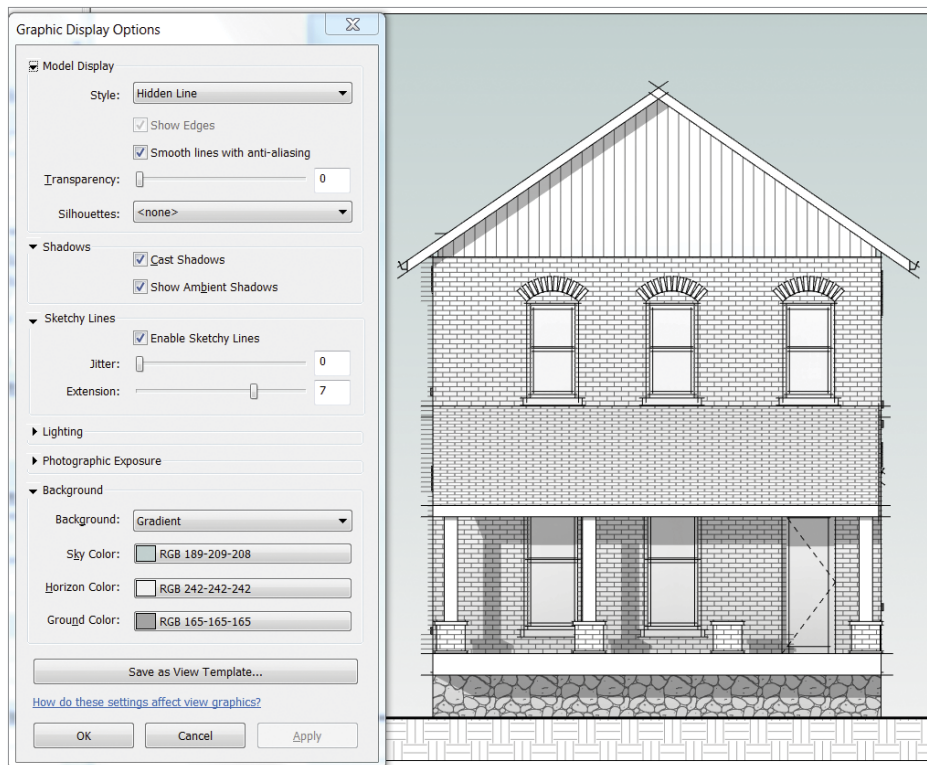

FIGURE 9.8 Elevation presentation view and GDO settings
9. Expand the Background section, and choose Gradient from the options. Click Apply. You should see something similar to Figure 9.8. Click OK to close the GDO dialog.